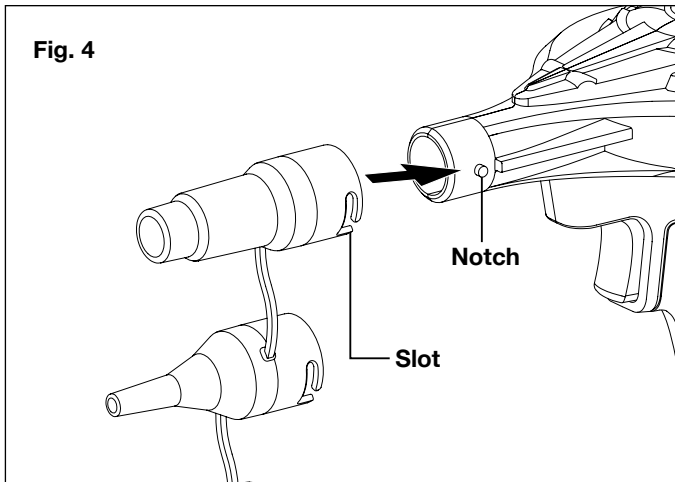

Fig. 4
1. To attach an adapter to the inflator end, align the notches on the high volume inflator nozzle with the slots on the adapter of your choice and slide together. Twist the adapter to lock into place (Fig. 4).
2. Select and assemble the appropriate adapter for the job. Insert the nozzle of the adapter into the air port on the object you wish to inflate and deflate (Fig. 4).